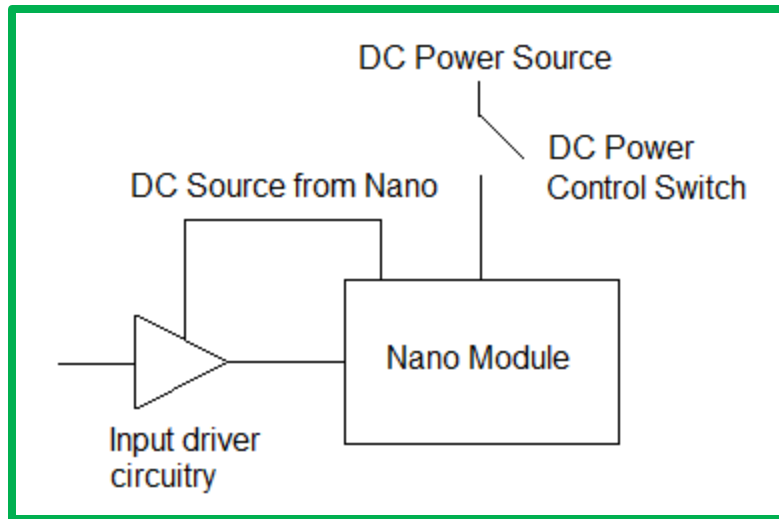
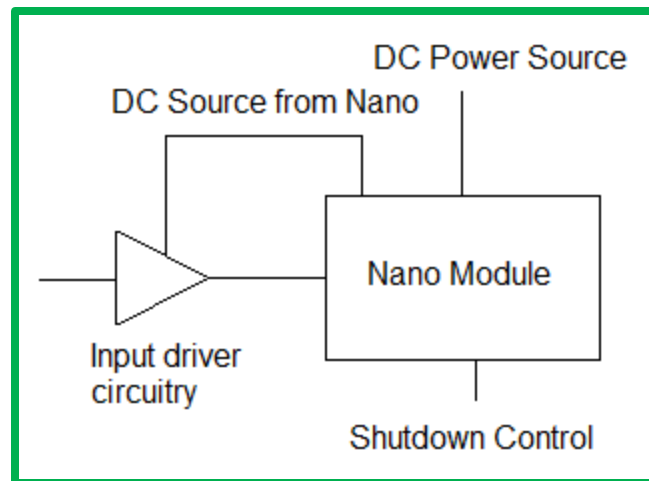

Figure 6
Figure 7
- (2) Add buffer circuitry to drive the input lines and power this circuitry from a voltage source originating from the Nano. That way, dropping power to the Nano drops the power to the driver circuit as well, so the input voltage can never remain high when the Nano is off. See Figure 6 and Figure 7.